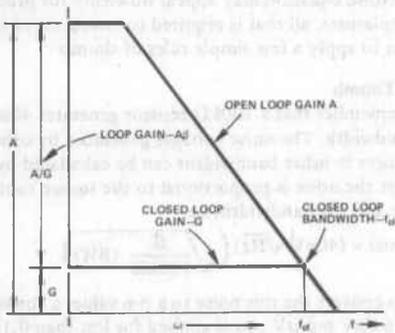

Figure 4. Closed Loop Bandwidth and Loop Gain
2. *What closed loop gain and bandwidth are required?* Closed loop gain, G , is dictated by the application. To a first approximation the intersection of the open and closed loop gain curves in Figure 4 gives the closed loop bandwidth, f_{c1} (-3dB). For high gain, wideband requirements, it may be necessary, or more economical, to use two amplifiers in cascade, each at lower gain.
3. What loop gain is required or alternatively what gain stability, output impedance and/or linearity are necessary? The available loop gain at a particular frequency or over a range of frequencies is very often more important than closed loop bandwidth in selecting an amplifier. Loop gain as illustrated in Figure 4, is defined as the difference, in dB, or as the ratio, arithmetically, of the open to closed loop gain ($A\beta = A/G$). You will find in most of the equations defining the closed loop characteristic of a feedback amplifier that the loop gain ($A\beta$) is the determining factor in performance. Some of the more notable examples of this point are as follows: